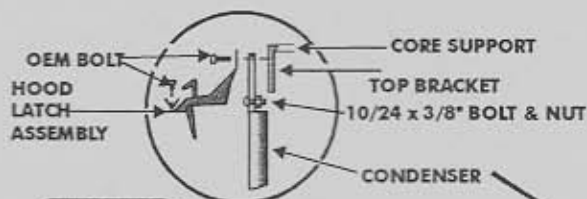

FIGURE 6
- THE TOP BRACKETS GO BETWEEN THE CORE SUPPORT AND THE HOOD LATCH ASSEMBLY (SEE FIGURE 6, PAGE 5).